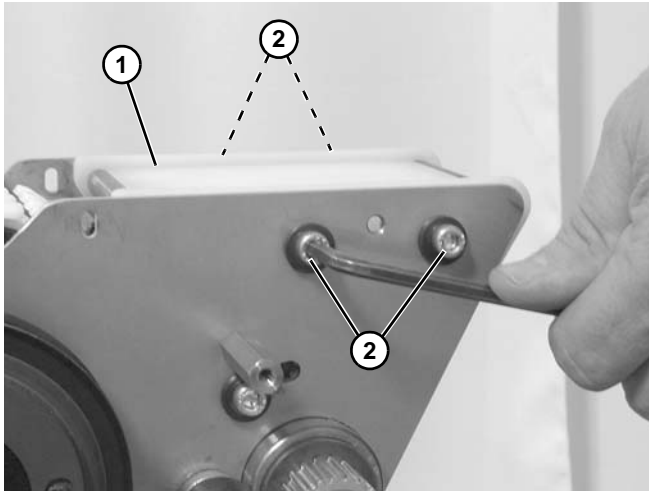

Figure 172
5. Install wear bar assembly (Figure 172, item 1) with four socket head screws (Figure 172, item 2).